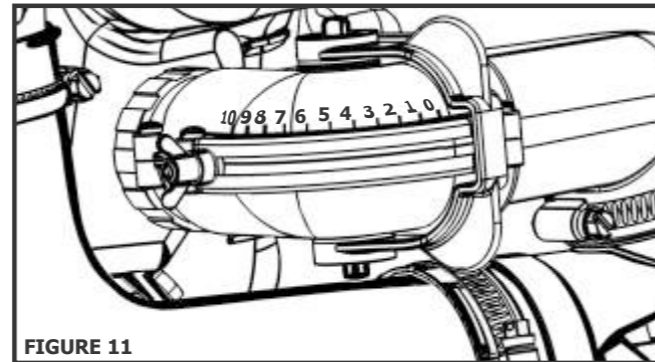

FIGURE 11
**b) Doser Red Lever:** move this lever to the regulation position (1 to 10) to adjust the flow rate (grams per minute) desired for the application (Figure 11);